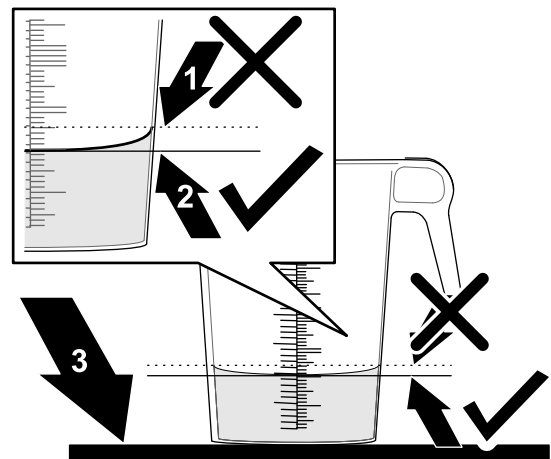

Figure 50
6. Set the graduated container on a level surface and note the fluid volume (Figure 50).